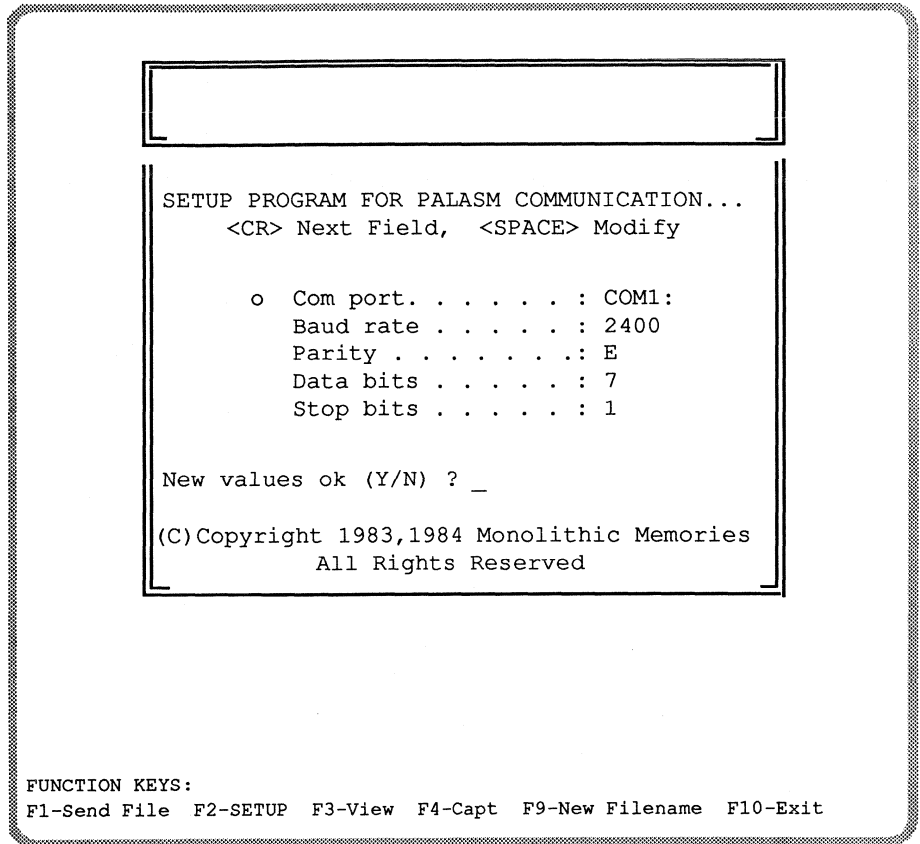

Figure 4-66
5. After you select an option for the last parameter (Stop bits) and press <return>, the screen displays the transmission parameters. Figure 4-66 shows a sample setup.